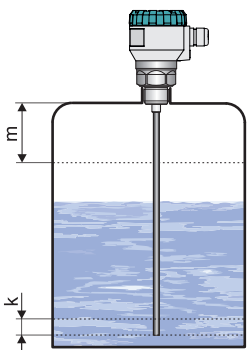

Fig. 3: Level meter dead zone with rod electrode
- In connection with the measurement principle, the signals **reflected** in the area just under the level meter can not be evaluated. **The zone** (Fig. 3 and 4) determines the min. distance possible between the level meter and the highest surface level. It is necessary to install the level meter so that the bin level cannot **interfere** with the dead zone when filled up to the maximum or deplete to the minimum. If the measured level interferes with the dead zone, the level meter will not work properly.